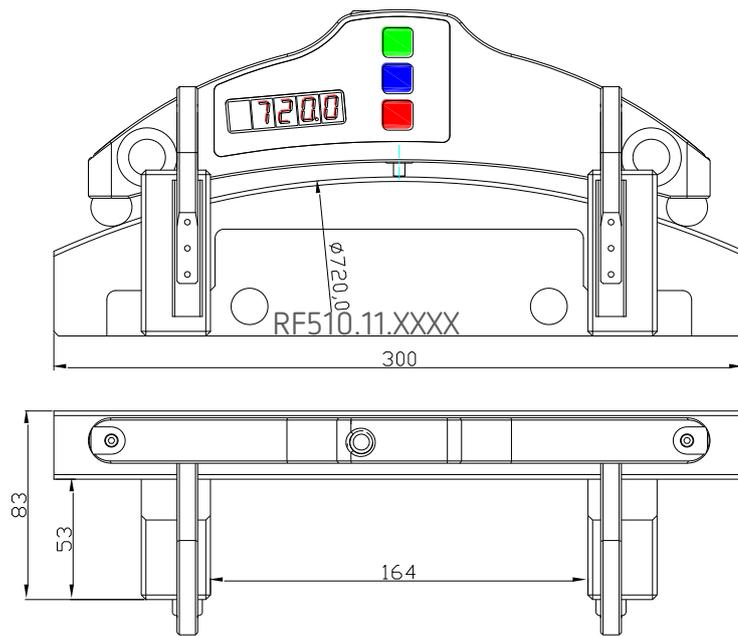

Figure 5
- reference wheel of the known diameter (or Reference wheel block FDRF510.11.850, figure 5)